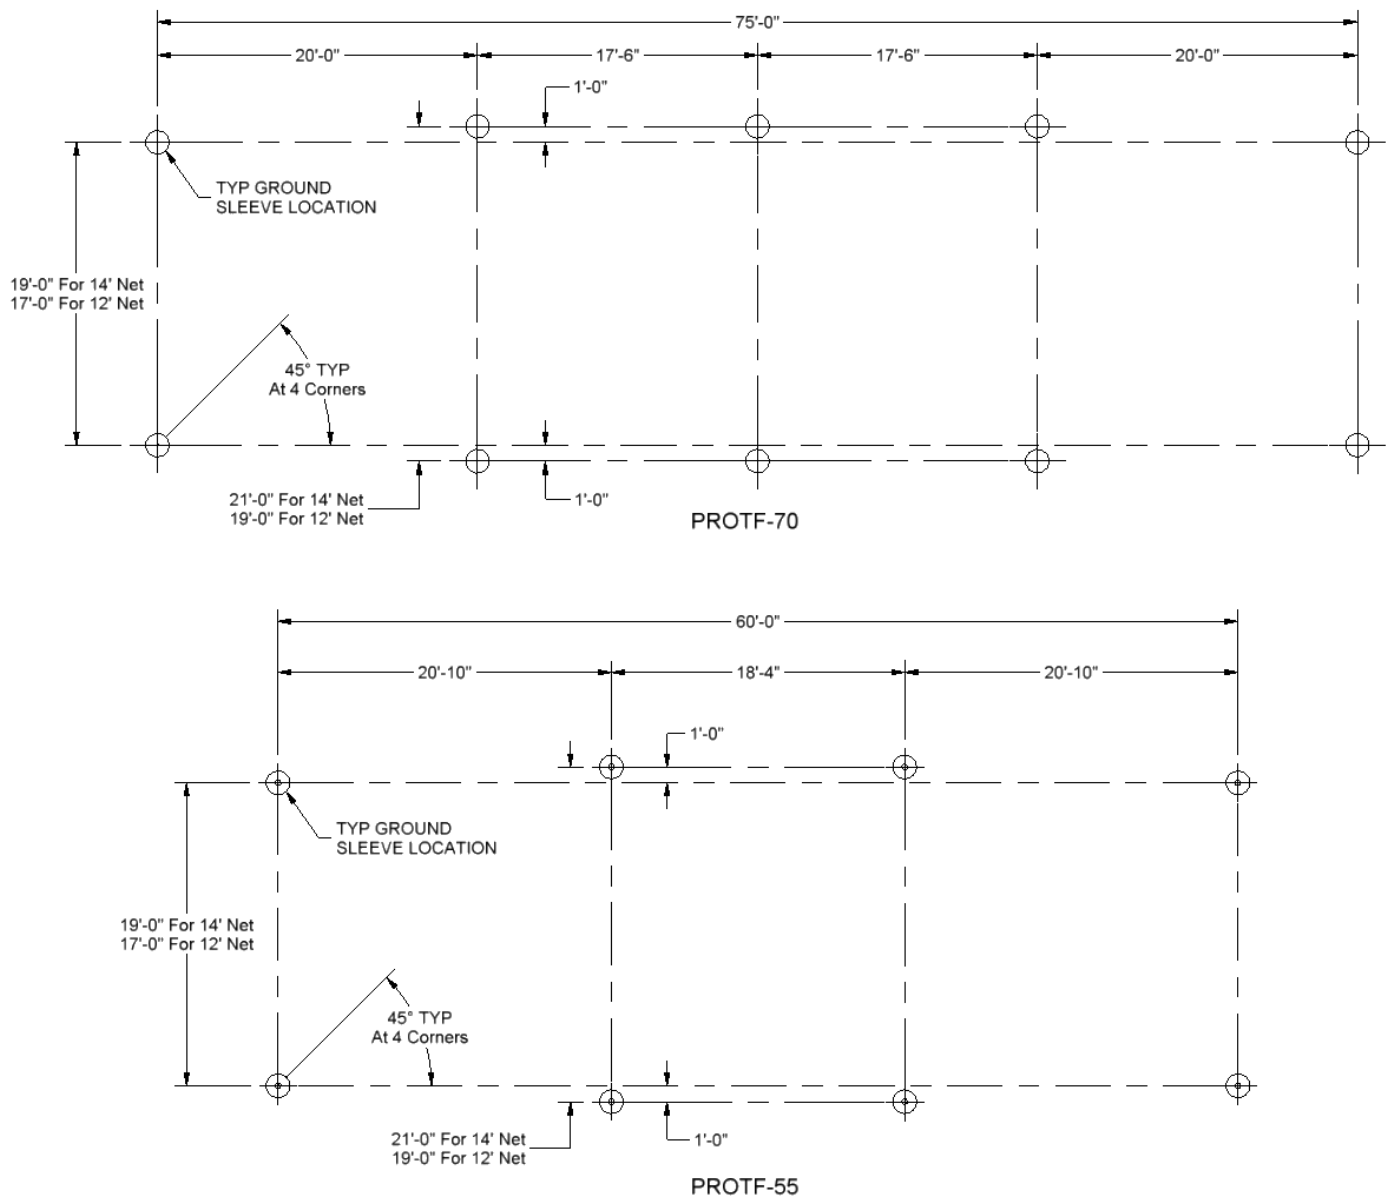

FIGURE: 1 - FRAME LAYOUT
- 4) Layout the ground sleeves as shown in Figure 1. (Note: the PROTF-55 frame is designed for a 55 ft long net, and the PROTF-70 is designed for a 70 ft long net. If frame is being installed for a different length net, the overall length of the frame should be 4 ft longer and wider than the net.)